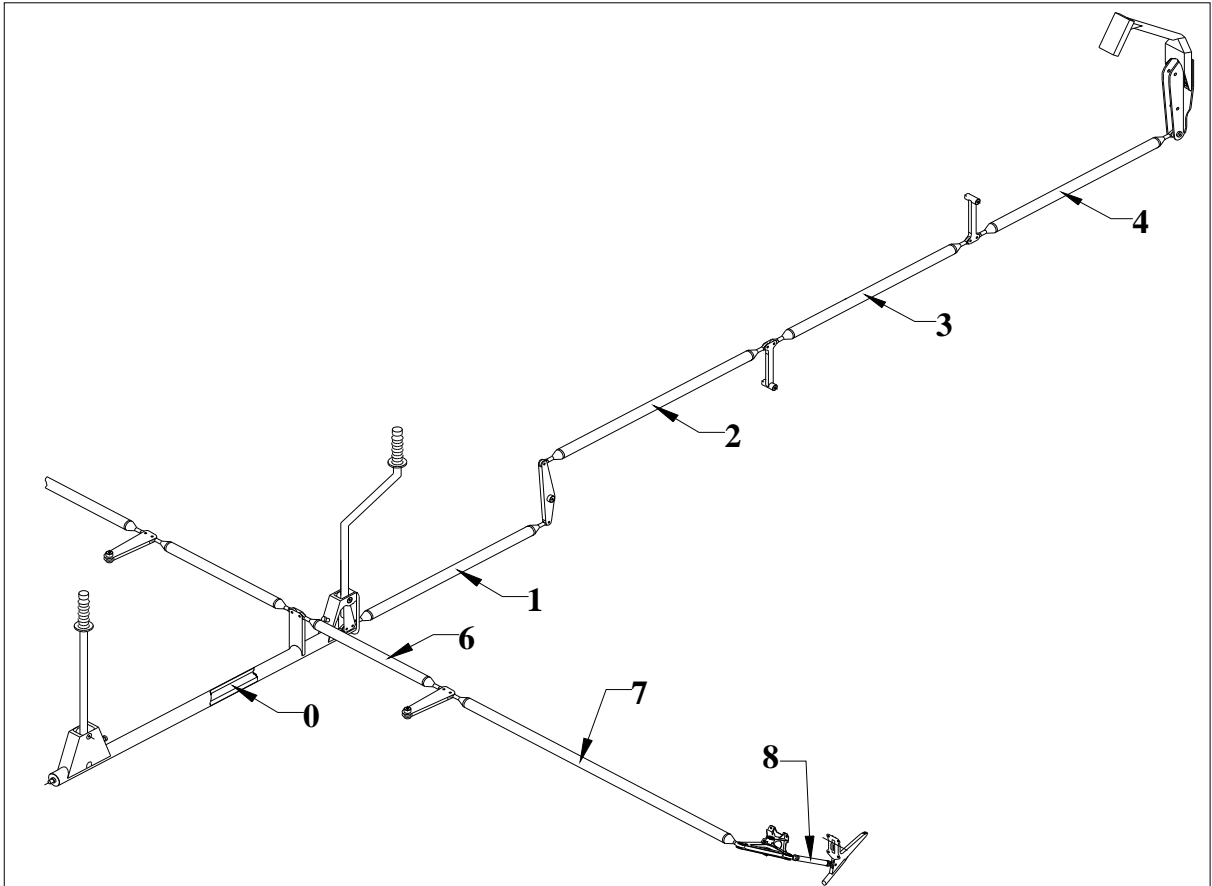

Figure 6 Control Rod Identification
Refer to the following Figure 6 for identification of the control rods.
Ensure that the rod ends of each control rod are exactly aligned to each other (see Table 1) after adjustment. This particularly applies for the control rod (1, Figure 6), which must allow the torque tube to rotate.
- 4 Adjust length of control rods 6 (Figure 6) if necessary per Chapter 27-00-01.
- 6 Adjust length of control rods 7 (Figure 6) if necessary per Chapter 27-00-01.